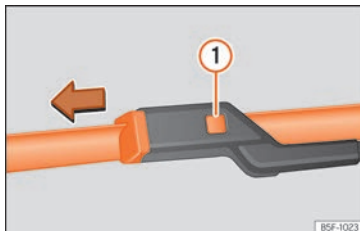

Fig. 49 Changing the windscreen wiper blades
- Press and hold release button »» Fig. 49 ① and pull gently on the wiper blade in the direction of the arrow.